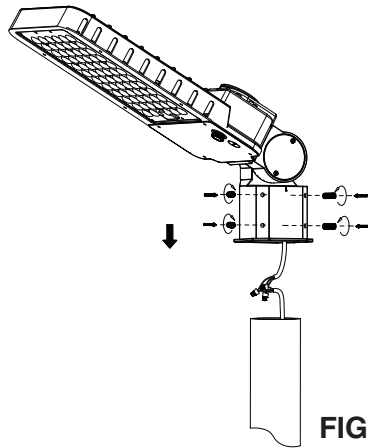

FIG. 8
1. Connect the power leads properly, make the wiring connections (see Wiring Diagrams below) and lay the wires in the pole. Once completed, insert the slipfitter onto the pole (see **FIG. 8**).